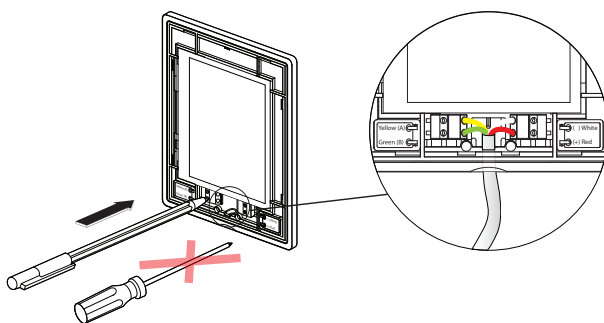

Fig. 23. Cable connection to the control panel
- Control panel (see. Fig. 23)
- **Outputs TG1 (6–8)** – Power supply and control signal for a water mixing valve actuator of the external heat exchanger or direct evaporation (DX) cooler/heater. Depending on the “External coil” type selected in the settings (see “Domekt User Guide”), the valve actuator will be controlled by a heating or cooling signal. An external pre-heater for frost protection of the CF heat exchanger may also be connected here.